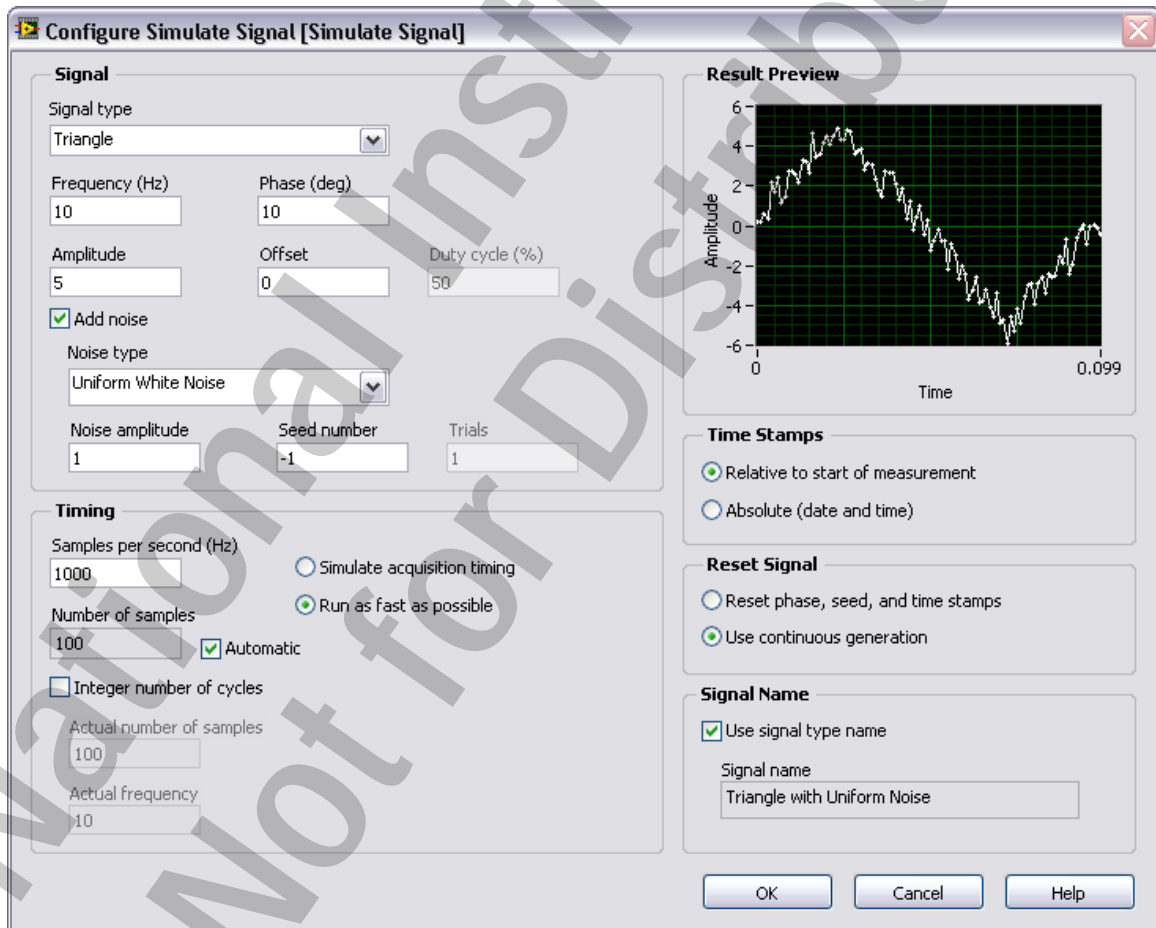

Figure 4-4. Simulate Signal Express VI Configuration Dialog
- In the dialog box that appears, set the options as shown in Figure 4-4.